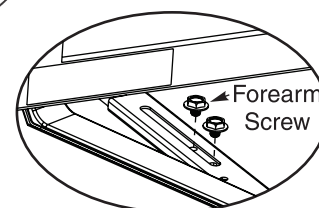

Figure 23
5. While holding arm in position, secure main arm slide tube to adjusting tube with forearm screws. (Figure 23)